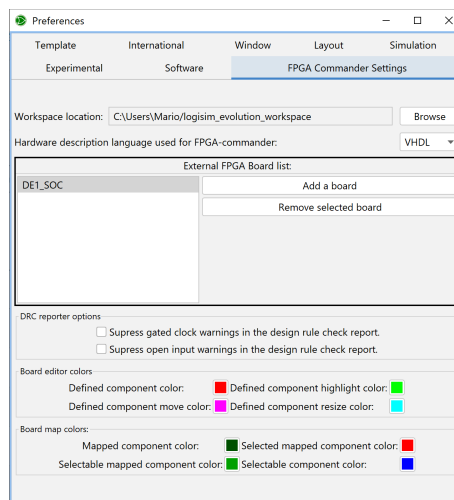

Figure 1.4: The Preferences: FPGA Commander tab
4. Click on the **Settings** button just above the **Target board** panel. A Preferences window should open (Figure 1.4). You should see `DE1_SOC` under **External FPGA Board list::**.